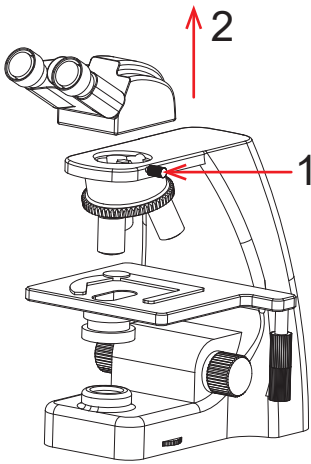

Figure 1
- (1) Separate the objective end of the binocular microscope from the eyepiece end, as shown in Figure 1: